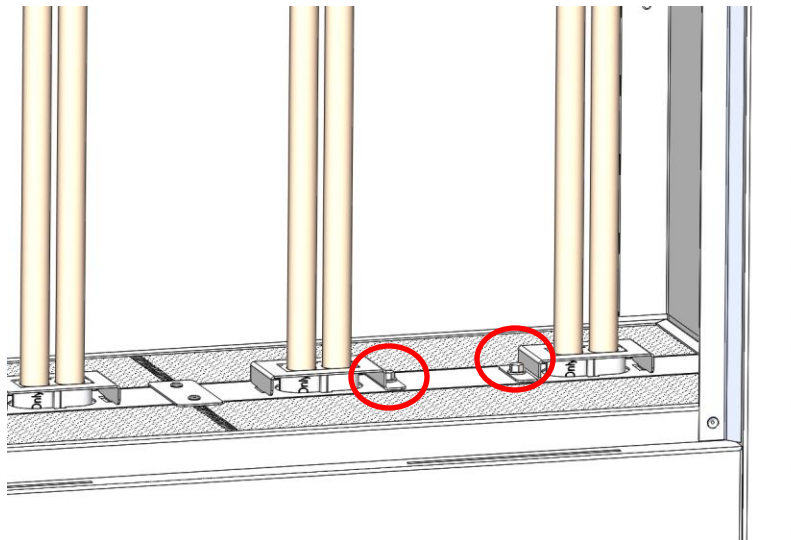

Figure 18: Remove Bulb Clip Screws
- 6) Unscrew 1/4" screws on Bulb Clips. See Figure 18 below.